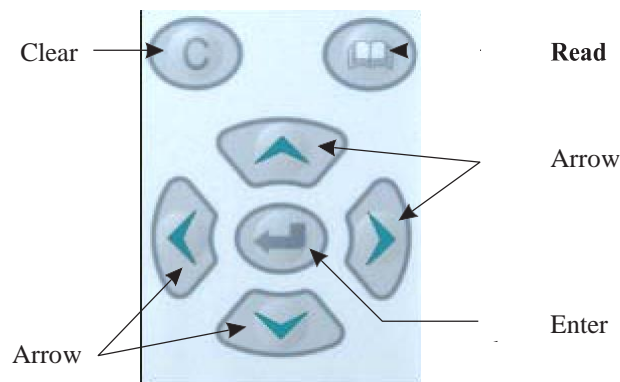

Figure 3 - HF2025 keypad
- The relay serial number and the relay voltage rating information (see figure 3 in this chapter)